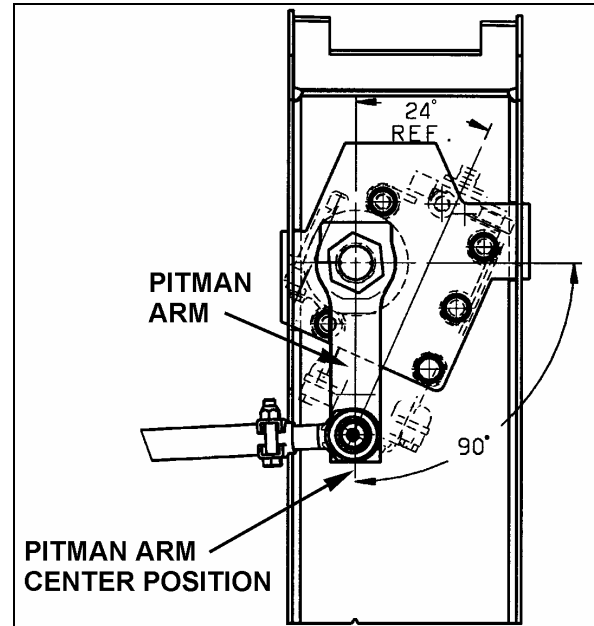

FIGURE 17: PITMAN ARM ALIGNMENT
2. Afterwards, the pitman arm should be adjusted with reference mark aligned or to an angle of 90° in relation with the horizontal axis (Fig. 17).